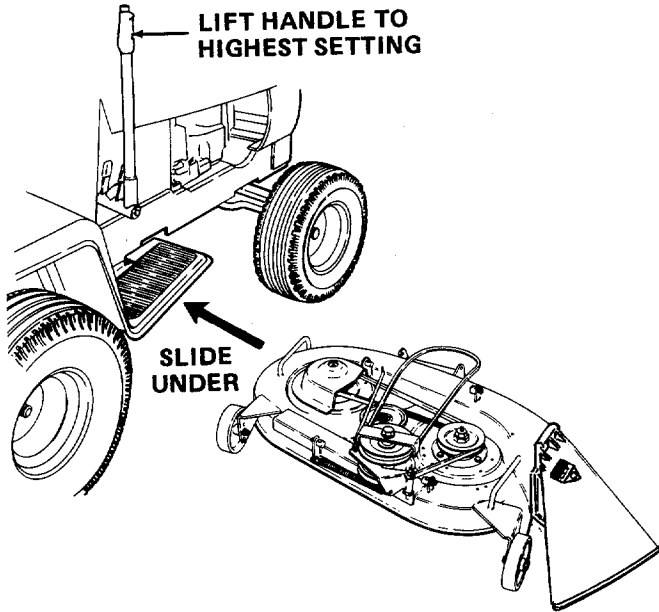
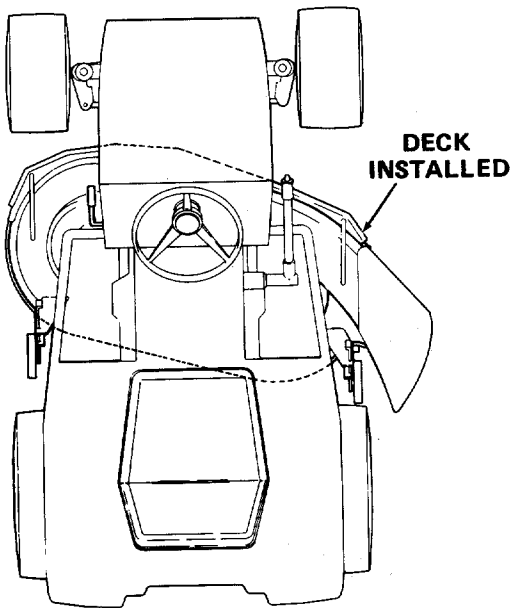

Figure 45
Figure 46
1. Raise the lift handle to its highest setting. Refer to Figure 45 and place the deck on the right side of the tractor, with the front of the deck facing toward the front of the tractor. Slide the deck under the tractor until it is aligned with the tractor as illustrated in Figure 46.